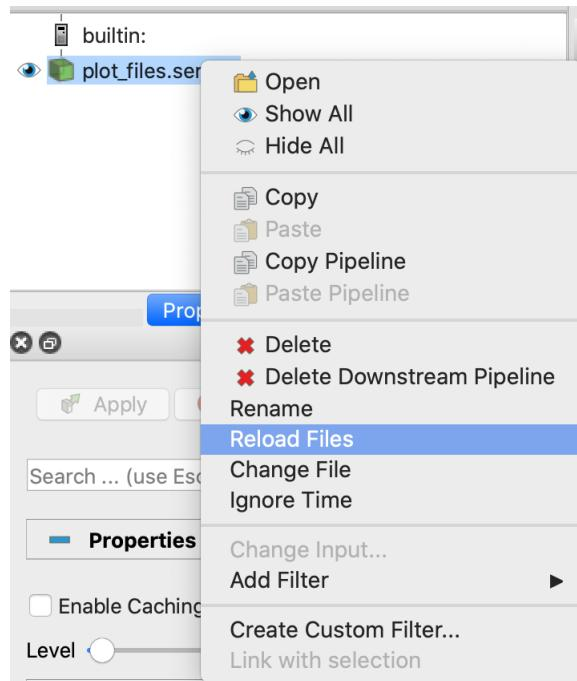
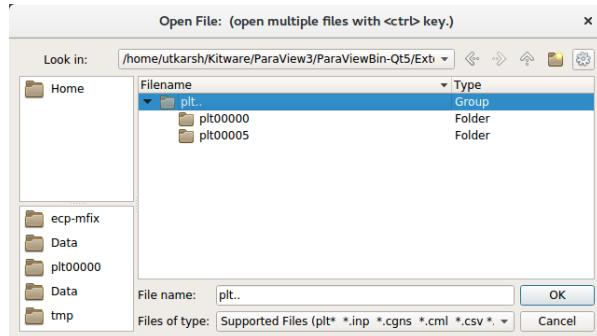

Fig. 18.2: : File dialog in ParaView showing how to reload a series file
Fig. 18.3: : File dialog in ParaView showing a group of plotfile directories selected
2. Navigate to your run directory, and select the fluid or particle plotfile. Note that you can either open single/multiple plotfile(s) at once by selecting them one by one or select an ensemble of file, labelled as `plt..` and indicated as a Group in the “Type” column of the file explorer (see Fig. 18.3). In the later case, Paraview will load the plotfiles as a time series. ParaView will ask you about the file type – choose “AMReX/BoxLib Grid
Open ParaView, and then select “File” → “Open”. In the “Files of Type” dropdown menu (see Fig. 18.3) choose the option All Files (*). Then choose `plot_files.series` and click “OK”. Now the plotfiles have been loaded as a Group as in Step 2 of section *ParaView*. Now, you can follow the steps 2 to 7 in the section *ParaView* to plot. As new plotfiles are generated, just re-run the bash script to re-generate the `plot_files.series` file, right-click on `plot_files.series` in the ParaView menu, and click on “Reload Files” (see Fig. 18.2).
1. Run ParaView v5.7, and select then “File” → “Open”. You will see a combined “plt..” group. Click on “+” to expand the group, if you want inspect the files in the group. You can select an individual plotfile directory or select a group of directories to read them a time series, as shown in Fig. 18.3, and click OK. ParaView will ask you about the file type – choose “AMReX/BoxLib Particles Reader”.